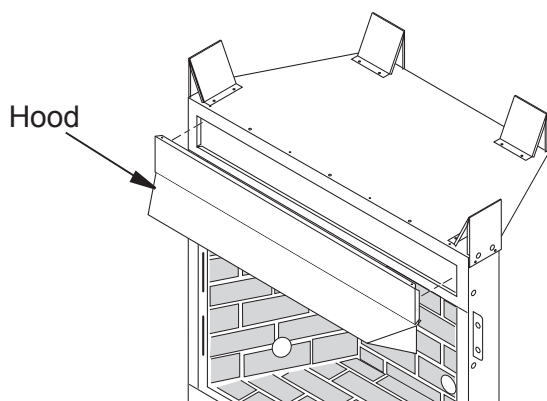

Figure 12 - Hood Placement
1. For Indoor models, attach hood and front panel assembly by snapping panel assembly into fireplace opening (see **Figure 12**).